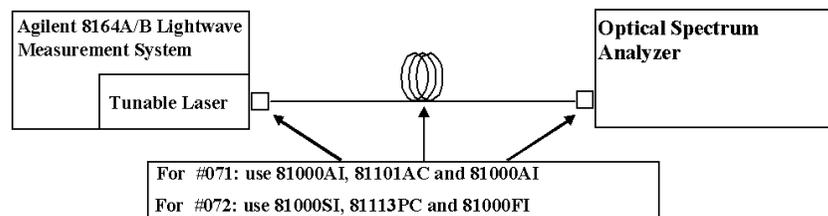

Figure 35 Test Setup for Signal-to-Source Spontaneous Emission Test - High Power Output
- 1 Set up the equipment as shown in Figure 35:
1 Set up the equipment as shown in Figure 35: